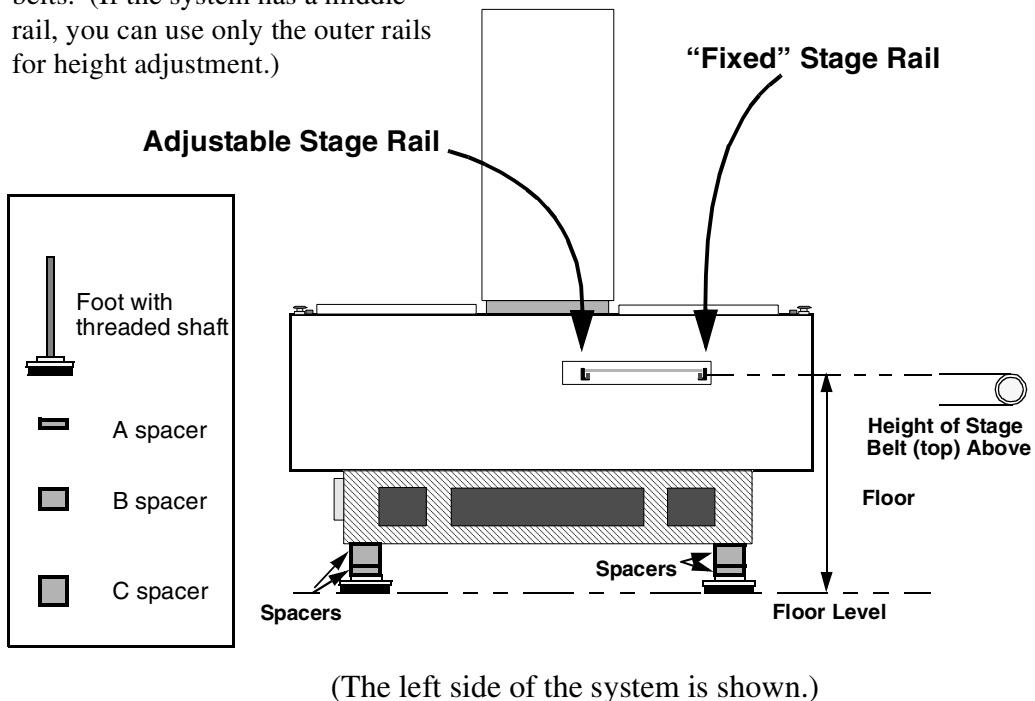

Figure 5 **Height Setup**
- ☐ **11. Verify that the system is level** — Adjust pads as required. This is done by turning the top of the threaded shaft (see Figure 5). Use a level inside the system on the granite base in various locations rather than on the top of the system. Check x and y orientation in all 4 corners.